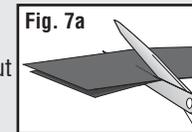
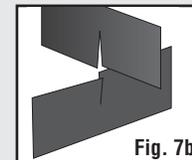

Fig. 7a
Fig. 7b
- Cut two strips of **Blackout Paper**, each measuring 6 1/2 in L x 2 1/8 in W. Place the two strips on top of each other and cut a notch half-way up (**Fig. 7a**). Assemble as shown (**Fig. 7b**).